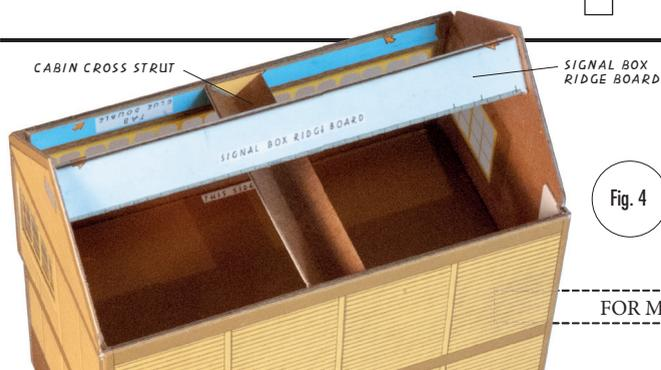

Fig. 4
- 8** Take the CABIN CROSS STRUT, bend it to an angle and glue it between the yellow triangles (Fig. 4).